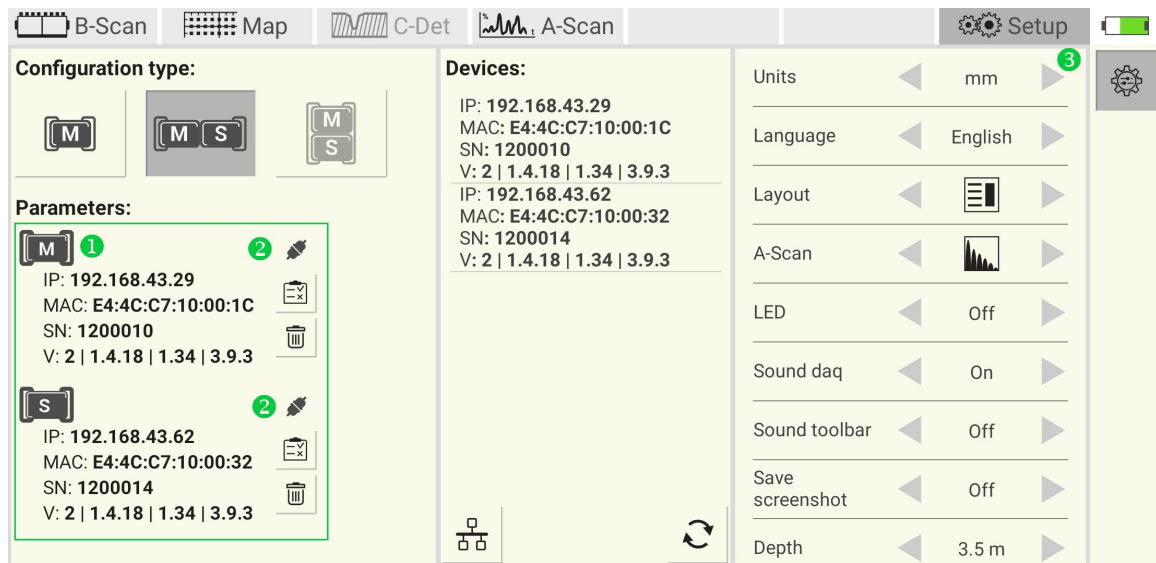

Figure 24: A1040 MIRA 3D PRO connection
After successful connection the panel ❶ shows parameters of the master and the slave devices. The indicator ❷ changes from to . The battery indicator ❸ changes its status from disconnected to power, Figure 24.